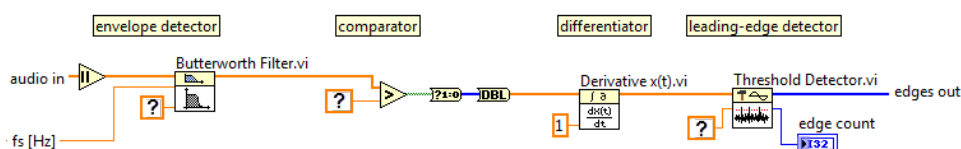

Figure 12.3: LabVIEW block diagram of the edge detector subsystem.
- ▶ Enter the edge detector block diagram code shown in Figure 12.3 on the next page. The edge detector consists of an envelope detector, comparator, differentiator, and threshold detector. Place the needed components by typing “Ctrl+Space” for the “Quick Drop” menu and typing the following names: